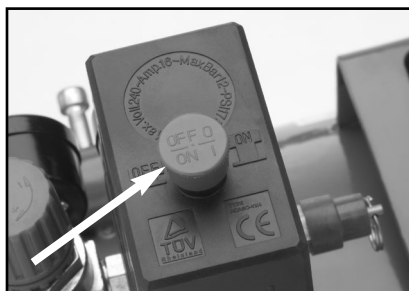

Figure 3. ON/OFF button.
1. Make sure the compressor switch is in the *OFF* position (knob with red cap above pressure gauges shown in **Figure 3** pressed down) before connecting the power supply.